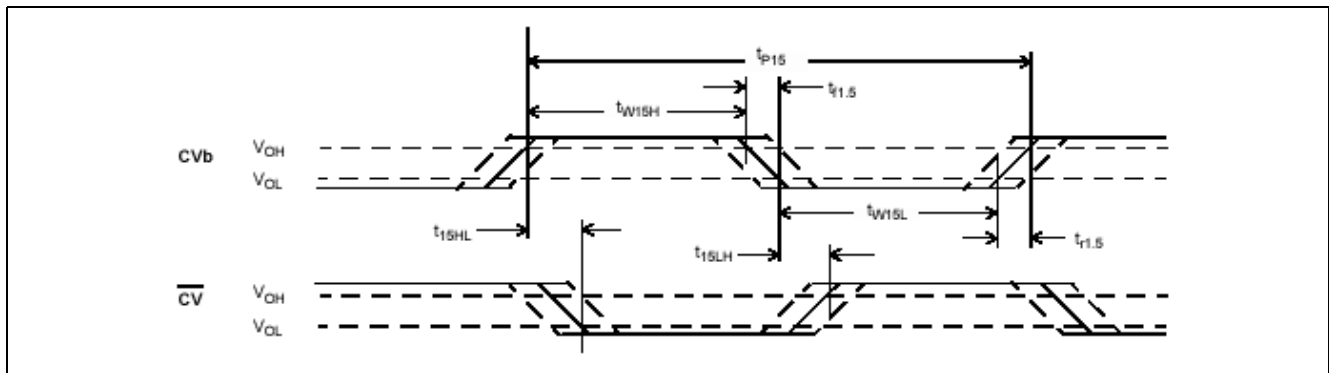

Figure 14 - Timing Information for DPLL #1 in NORMAL Mode
**AC Electrical Characteristics†** - Voltages are with respect to ground ( $V_{SS}$ ) unless otherwise stated. (Refer to Figure 14)